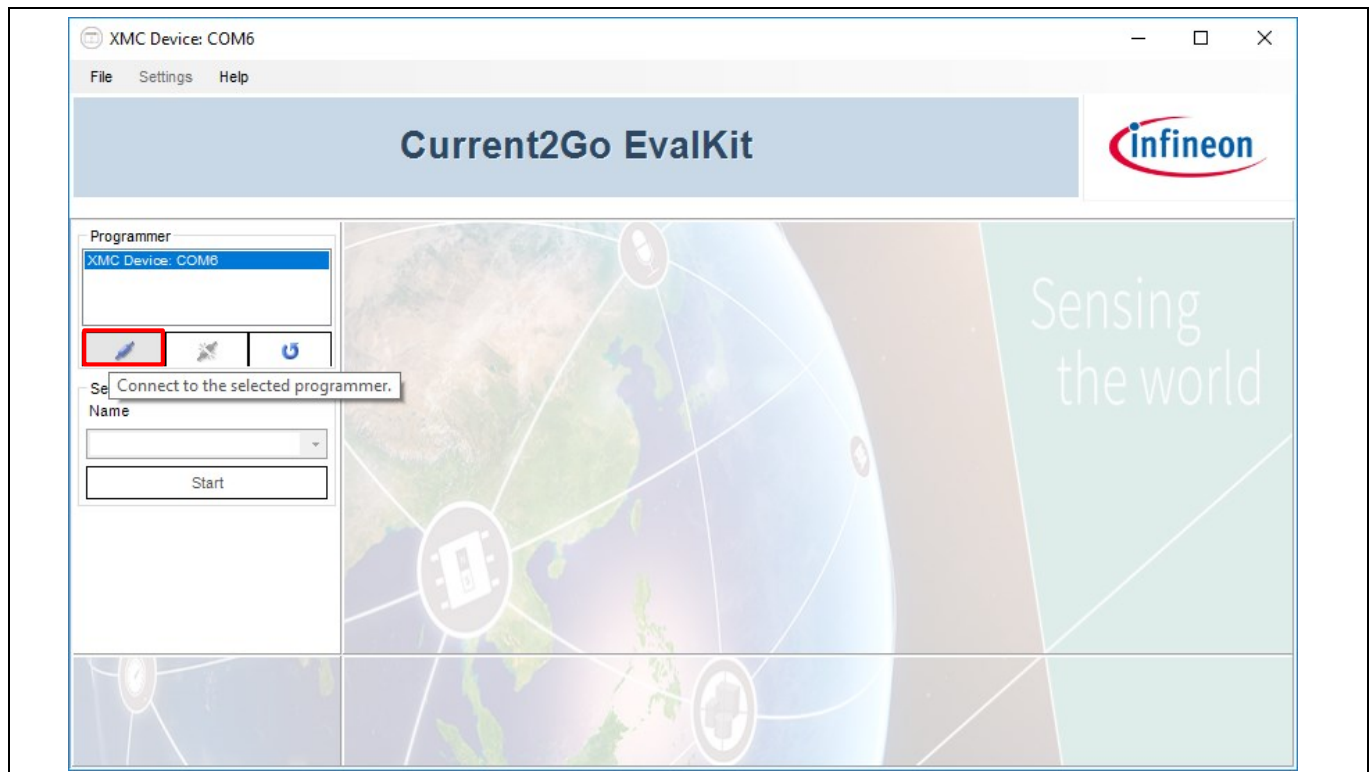

Figure 14 XMC Device: COM6 window: Establish Connection
- Click with the left mouse button on the symbol that is marked with a red color box in Figure 14 to establish the connection with the MS2Go kit.